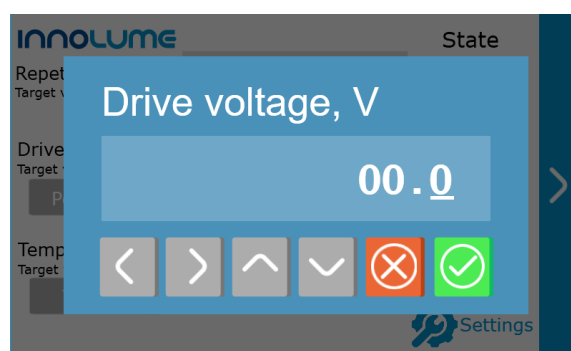

Figure 22 – Driver voltage setting
10. Tap on driver voltage value to set the laser diode operating voltage (fig. 22). Use the left and right arrows to select the digit to change, use the up and down arrows to change the value. Press  button to save the changes and exit menu. Press  button to exit menu without changes. **Note:** The driver voltage is not the laser diode bias. The driver voltage sets the laser diode current.